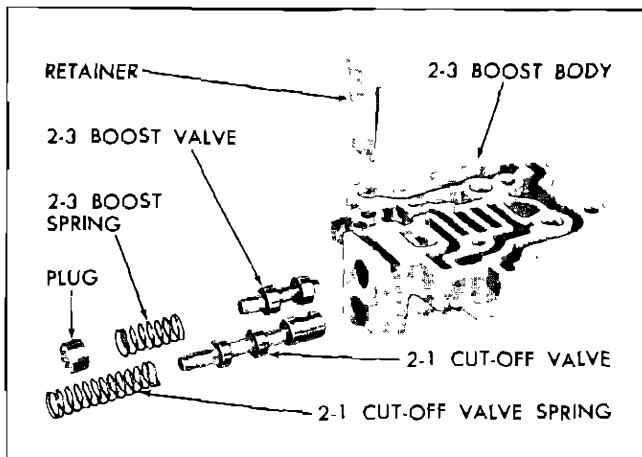

Fig. 102 2-3 Boost Body—Exploded
3. Remove the retainer from the 2-3 boost body. Retainer is under spring pressure (Fig. 102).